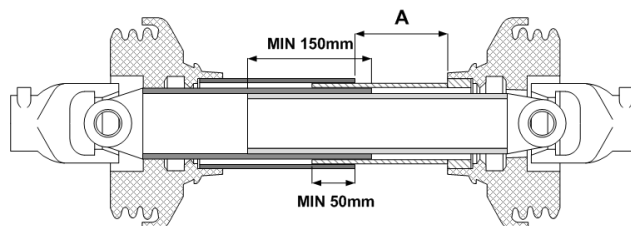
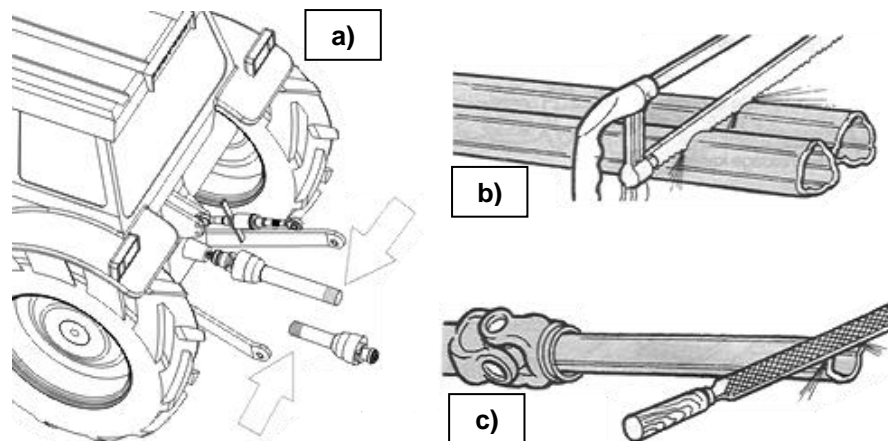

Figure 5.5
Figure 5.6
IMPORTANT: The recommended minimum engagement of the PTO is 150mm in the working position. This measurement must be considered when shortening the PTO shaft. (See Figure 5.6)
- 5.4.1.2 Pre-assemble the PTO shaft and check that the drive tube overlap is not less than 150mm, see Figure 5.5 and Figure 5.6 a.
- 5.4.1.3 Check that the minimum overlap of the shaft guards is not less than 75mm, see Figure 5.5.
- 5.4.1.4 If the overall PTO length is likely to reduce during operation then ensure that at its minimum there is at least 40mm movement left between the guards, see dimension 'A' in Figure 5.5.
- 5.4.1.5 If the PTO needs to be shortened, cut both tubes as both halves must be shortened equally, see Figure 5.6 b.